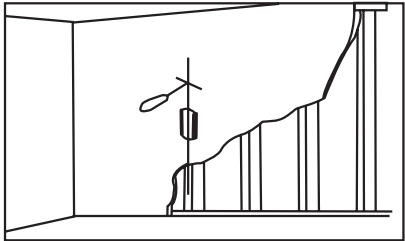

Fig 2b
Using a awl or nail to make where the nails are located, as shown as fig.2b. Distance between two nails for fixing wall mount must not less than 16". Pre-drill these holes with a 5mm drill bit to at least 40mm in deep hole. Please make sure these holes are level and located at center. Use wall mount as a template to mark the location of other three holes and drill the same holes. Fix the wall mount to the wall with 4 long bolts(H) and washers(J).